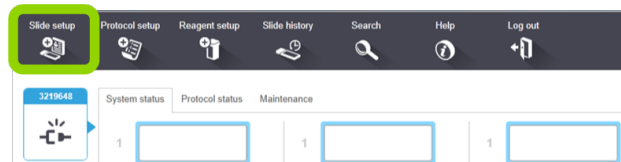

Figure 61: Slide setup icon
1. Click the **Slide setup** icon (see Figure 61).